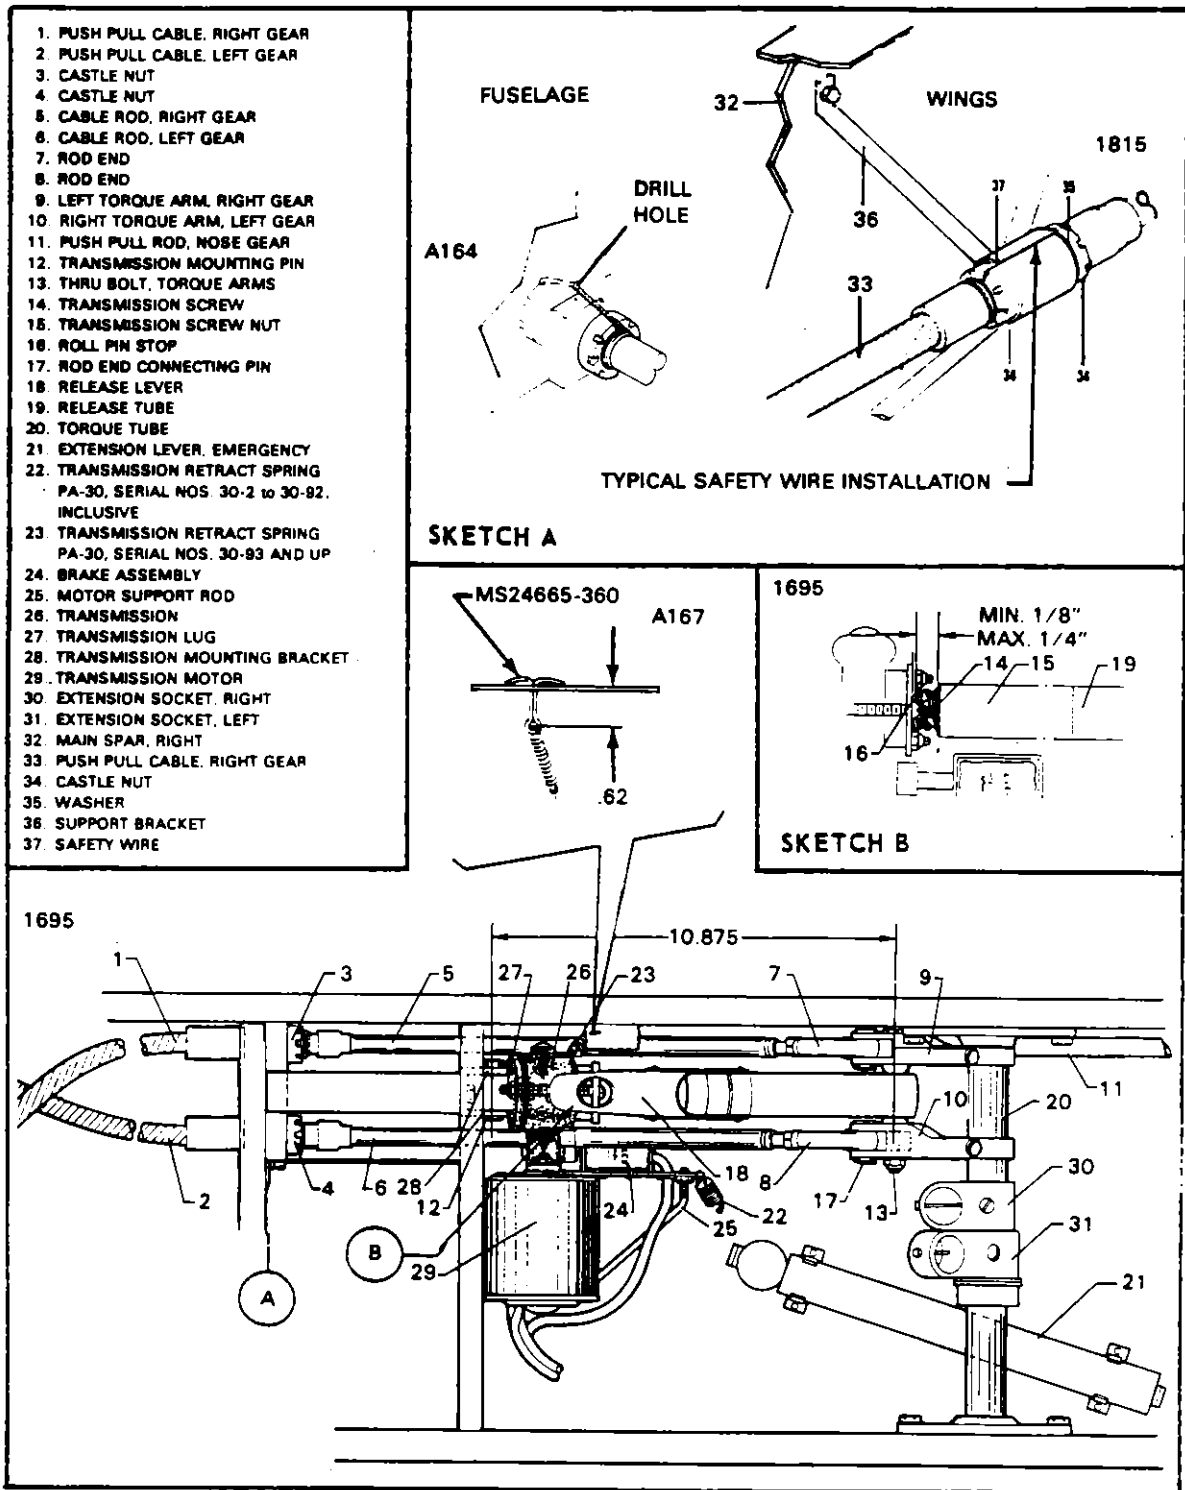

Figure 7-14. Landing Gear Retraction Transmission Installation
7-37. REMOVAL OF NOSE LANDING GEAR PUSH-PULL CONTROL ROD. (Refer to Figure 7-14.)
7-38. REMOVAL OF MAIN LANDING GEAR PUSH-PULL CONTROL CABLES. (Refer to Figure 7-14.)
7-41. INSTALLATION OF MAIN LANDING GEAR PUSH-PULL CONTROL CABLE. (Refer to Figure 7-14.) Install the main landing gear push-pull control cables using the following procedure:
- m. When all checks and adjustments are completed, safety all the castellated nuts as shown in Figure 7-14 Sketch B, with MS20995-C41 safety wire.
7-45. ADJUSTMENT OF GEAR RETRACTION TRANSMISSION ASSEMBLY. (Refer to Figure 7-14.) Adjust the retraction transmission by using the following procedure:
- c. Turn the transmission release tube (19) on actuator screw to maintain a distance of 10.875 inches between the center of the transmission mounting pin (12) and center of the thru bolt (13) connecting the lower portion of the torque arms. This adjustment should allow approximately a (minimum of 0.125 inch) measured along the actuator screw (14) between the roll pin stop (16) and the screw nut (15).
- e. Adjust the push-pull rod ends (7 and 8) to allow their connecting pins (17) to push freely through the torque arm clevises (9 and 10) and rod end bearings.
- g. Safety wire all castle nuts as shown in Figure 7-14 Sketch A.